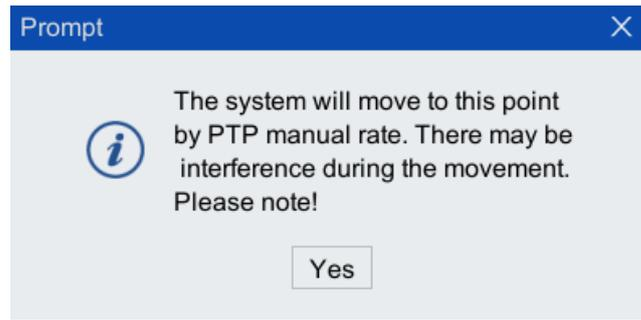

Figure 5-75 "Prompt" Box
Step2. Then click the <Move to this point> button, as shown in Figure 5-75, "The system will move to this point in manual override PTP mode. There may be interference during the movement, "please pay attention!" prompt box. After clicking <OK>, the robot starts to move. At this time, the display of the <Move to this point> button immediately changes to <Stop>. If there is interference during the movement, you can directly click the <Stop> button to stop the movement, and wait until the robot moves to the selection after the selected point, the <Stop> button returns to the <Movement to this point> button.